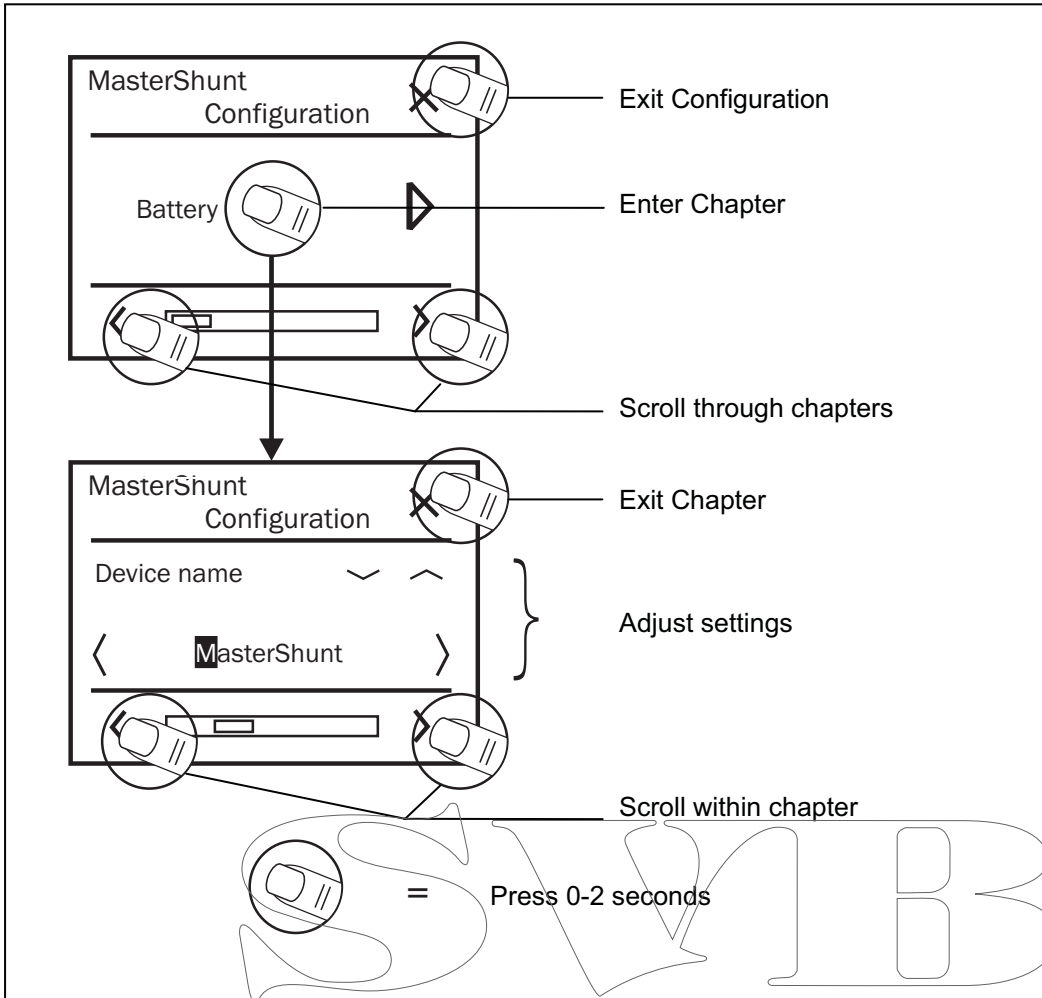

Figure 11: Operation of the MasterView Easy, example Configuration
- Press X to leave a menu or to cancel a setting (see figure 11). You will then return to the main menu.